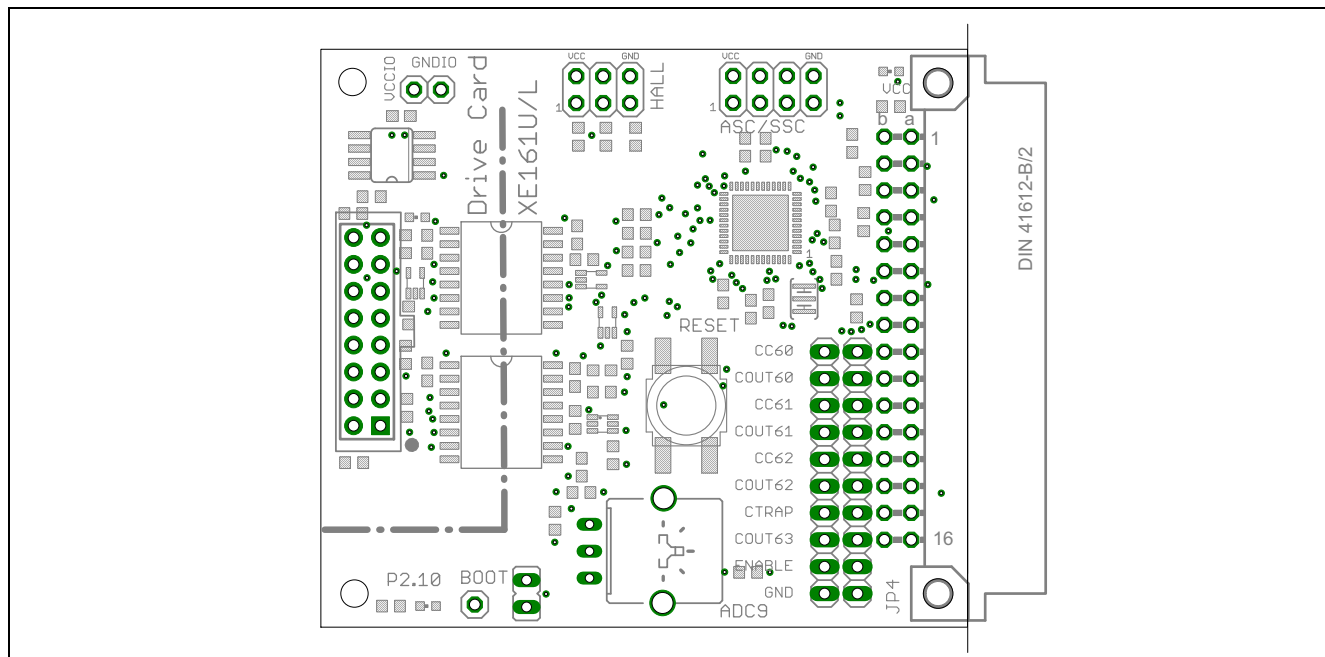

Figure 10 Solder View
- Figure 10 “Solder View” on Page 13